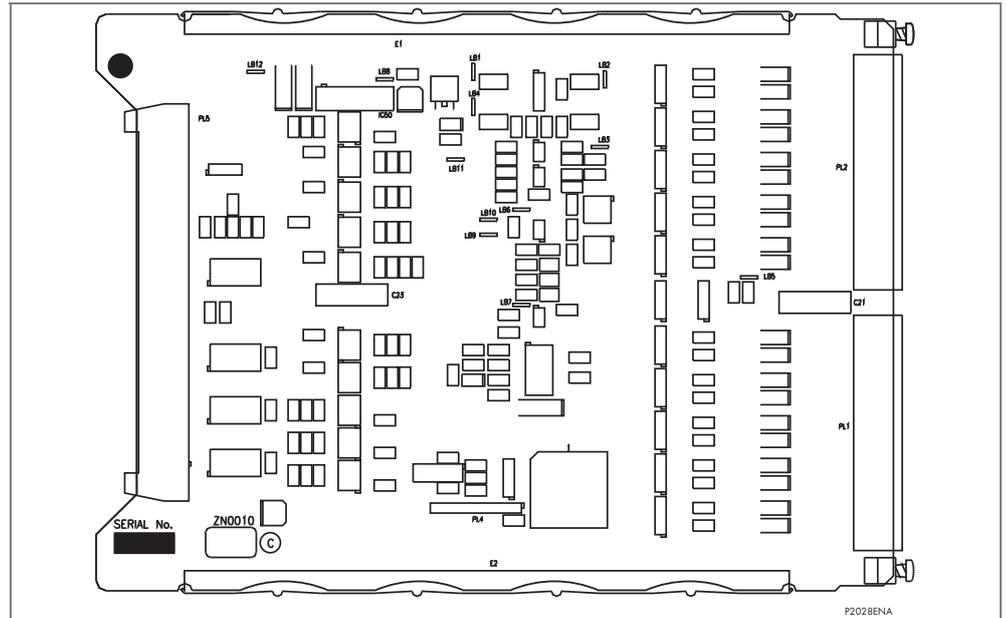

Figure 11 - Typical RTD input board
1. To replace a faulty CLIO board, first remove the two 15-way terminal blocks, each is fastened to its other half by slotted screws above and below the row of terminals, as shown in Figure 11. Remove these screws carefully as they are not captive in the terminal blocks.
3. The CLIO board is secured in the case by two screws accessible from the rear of the relay, one at the top and another at the bottom, as shown in Figure 11. Remove these screws carefully as they are not captive in the rear panel of the relay.